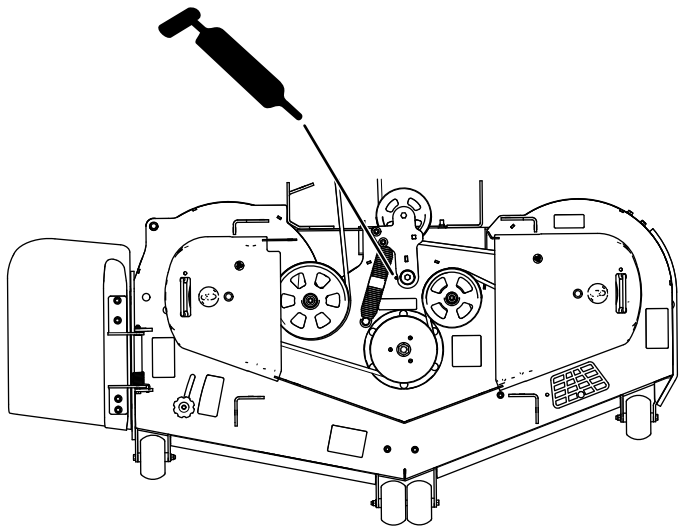

Figure 44
4. Grease the mower deck idler-pulley pivot until grease comes out the bottom (Figure 44).
13. Grease the caster-wheel bearings (Figure 44).